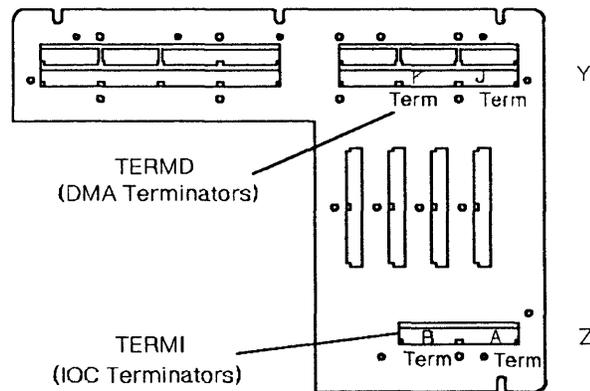

Figure 4-81. Terminator Card Locations
7. Remove the suspected terminator card. Refer to Figure 4-81.